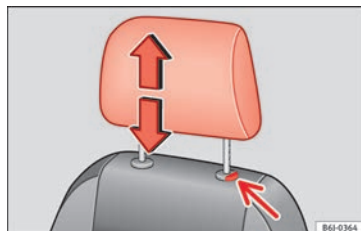

Fig. 76 Adjusting and removing the head restraints.
- Press the button » Fig. 76 (arrow).